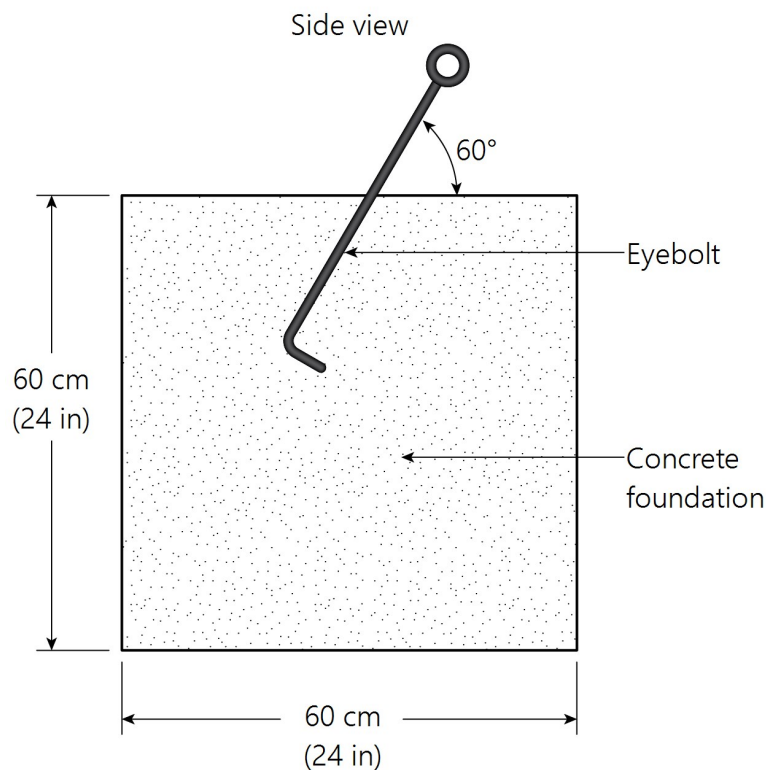

FIGURE 7-28. UTEYE eyebolt guy anchor
3. Fill the holes with concrete and install the eyebolts as shown in FIGURE 7-28 (p. 34).